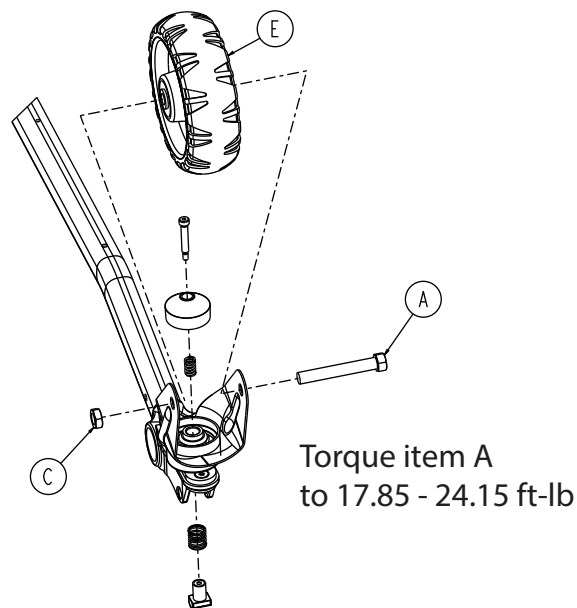

Figure 50 – Transport wheel components
4. Using a ratchet, 11/16" socket wrench, and 5/8" combination wrench, remove the hex head cap screw (A) and toplock hex thin nut (C) that secure the 6 inch molded wheel assembly (E) to the caster horn (Figure 50). Remove and discard the wheel. Save the screw and nut.